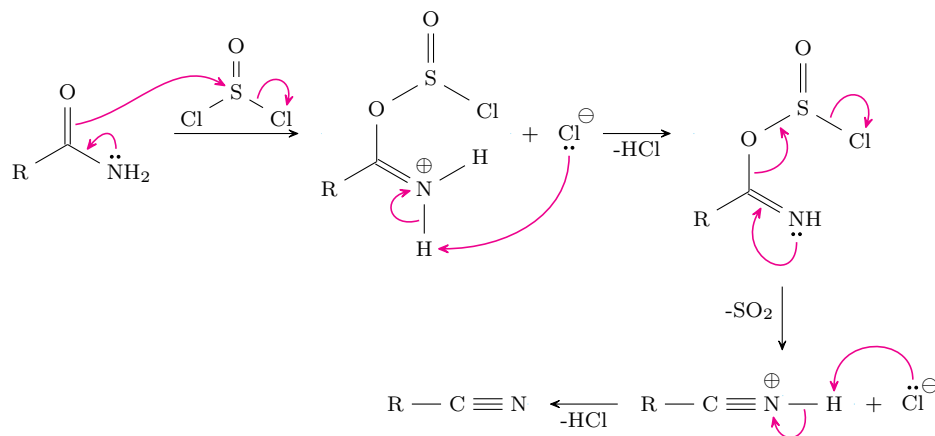

Figure 17.6: Dehydration of amides mechanism.
- Notice how the amide overall loses two hydrogens and an oxygen (i.e., a water molecule overall) in Figure 17.6.